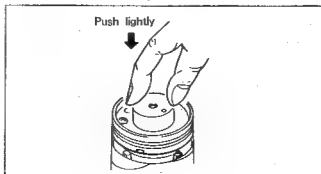

Fig. 7-48.
- 3) Remove jig ⑤ and push the rotary upper drum in by hand, lightly. (See Fig. 7-48.) When it is not inserted all the way, tighten the two hexagonal bolt screws ⑧ alternately to temporarily fix it.
- 4) Insert jig ⑤ into the positioning hole ⑦ again and confirm that it goes in smoothly. If not, loosen the two hexagonal bolt screws ⑧ and adjust it by inserting a clock screwdriver into the hole.
- 5) Tighten the two hexagonal bolt screws ⑧.